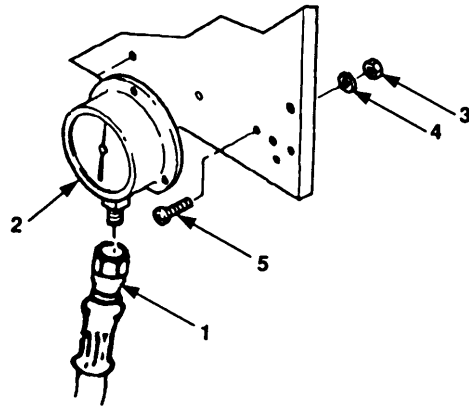

Figure 4-46. Suction Gauge (M4) and Discharge Gauge (M5) Replacement.
- a. Tag and disconnect hose (figure 4-46, 1) from gauge (2).
- b. Remove three nuts (3), lockwashers (4), and screws (5) from gauge (2).
- c. Remove gauge (2) from front of control panel.
- a. Install gauge (2) through front of control panel.
- b. Install three screws (5), lockwashers (4), and nuts (3) on gauge (2).
- d. Connect hoses (1) to gauge (2) and remove tags.